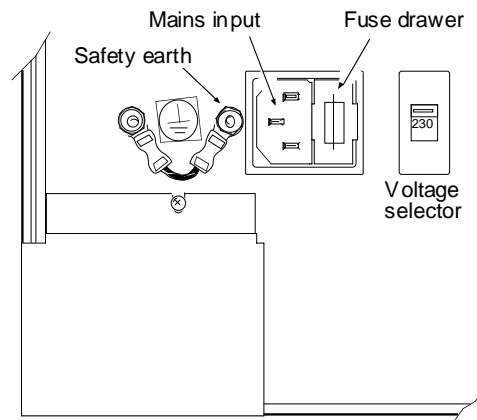

Figure 3.1.1b Supply voltage components
2. Check the supply voltage and its wiring to the rear of the recorder (figure 3.1.1b)
3. Check the supply voltage fuse (figure 3.1.1b)